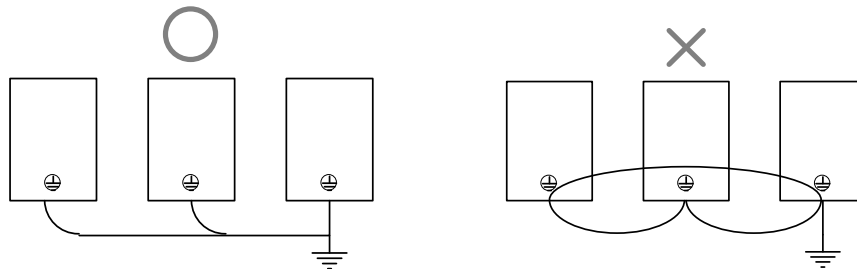

Fig. 4-10 Methods of multi-inverter grounding connection
- When multi-inverter are grounded, try to avoid looping the connection. Methods of multi-inverter grounding connection, see Fig. 4-10.